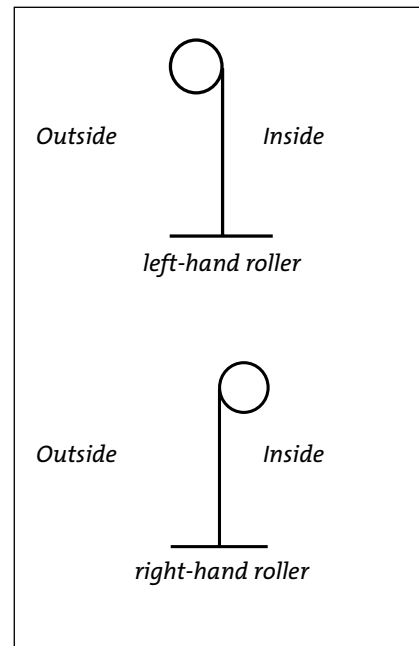

Fig. 4 : Assembly as built-in roller shutter
- Built-in, there are two possibilities: right roller and left roller: see figure 4